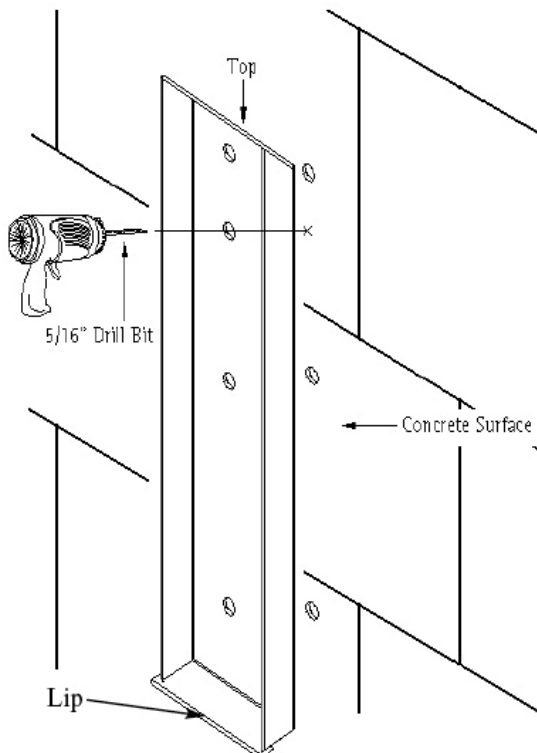

Figure 3. Backplate - Concrete Surface
NOTE: Be sure that the end of the back plate that has a lip is pointing as shown in (Figure 3).
3. Once the mounting holes are marked on the wall, use a 5/16" drill bit and drill 4 holes into the concrete surface (Figure 3).